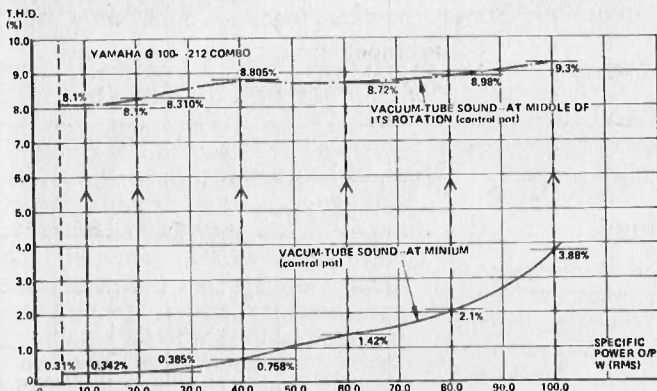

Figure 6.
Let's look at what the Japanese YAMAHA engineers call the 'vacuum tube' sound, and what Cambridge H.H. Electronics claim as the 'valve sound' — As can be expected both are 'combotype' designs in principle but designed as a real effort to simulate the tube 'character'. The Yamaha G 100B 212 amplifier's THD figures plotted against specific power output, ref. 1Kz is shown in fig. 6.